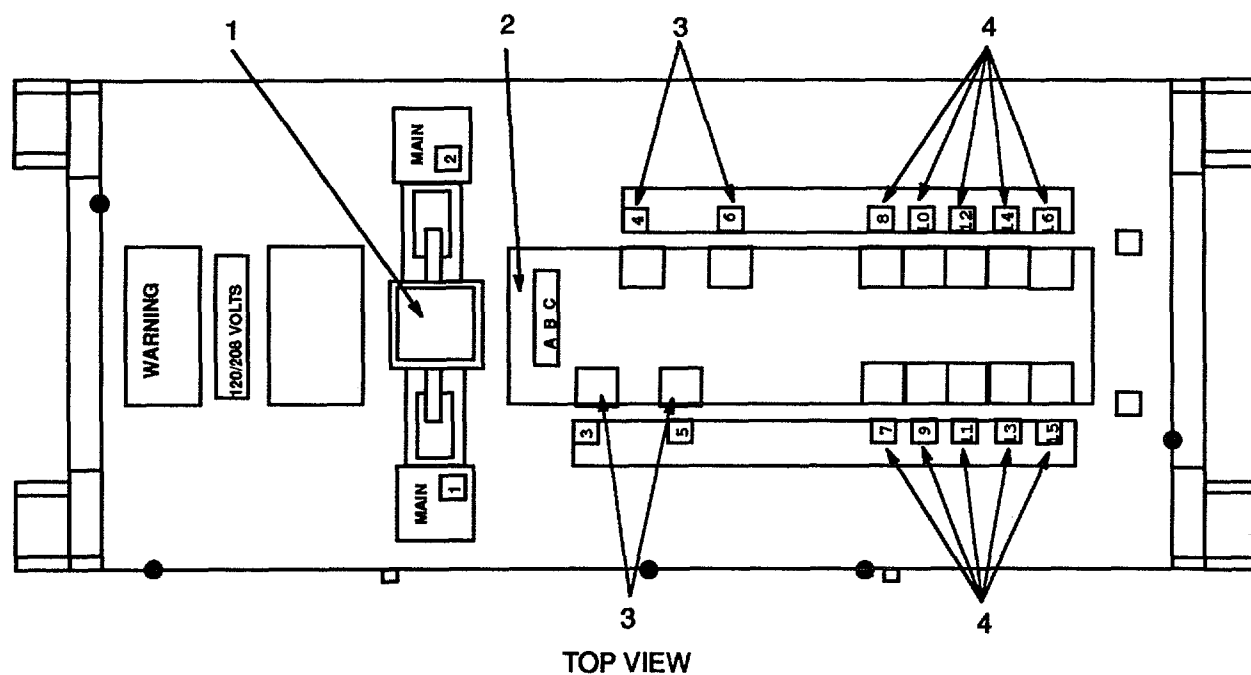

Figure 2-1. Power Distribution Panel Controls, Indicators, and Connectors.
2.1.1 Interlock. 400-Amp Circuit Breakers. The sliding bar assembly (1, Figure 2-1) is mounted to the top panel over the main circuit breakers CB1 and CB2. These two 3-phase circuit breakers are wired in series between the input load terminals on TB1 and TB2 and the power distribution panel bus bars. Either circuit breaker will prevent input to the power distribution panel from exceeding a total current of 400 amps per phase (144 KVA maximum load). The main circuit breakers enable the operator to select from two possible sources of input power when TB1 and TB2 are connected to separate generators. These circuit breakers also allow the operator to turn off power to all output circuit breakers. This bar functions as a manual safety interlock by physically preventing both main circuit breakers from being dosed simultaneously. When two sources of input are connected, there is no chance of power from both being applied to the bus bars at the same time. In addition, this interlock prevents input power from one set of load terminals from being applied to the remaining set of input terminals.